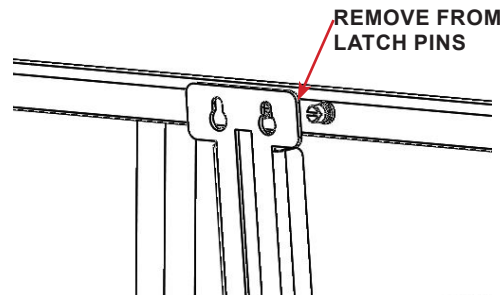

FIGURE 3.17 - Remove Latch Top
STEP 3: Once clear of the keyhole slot, pull the top of the latch bar clear of the center latch upper pins. See FIGURE 3.17